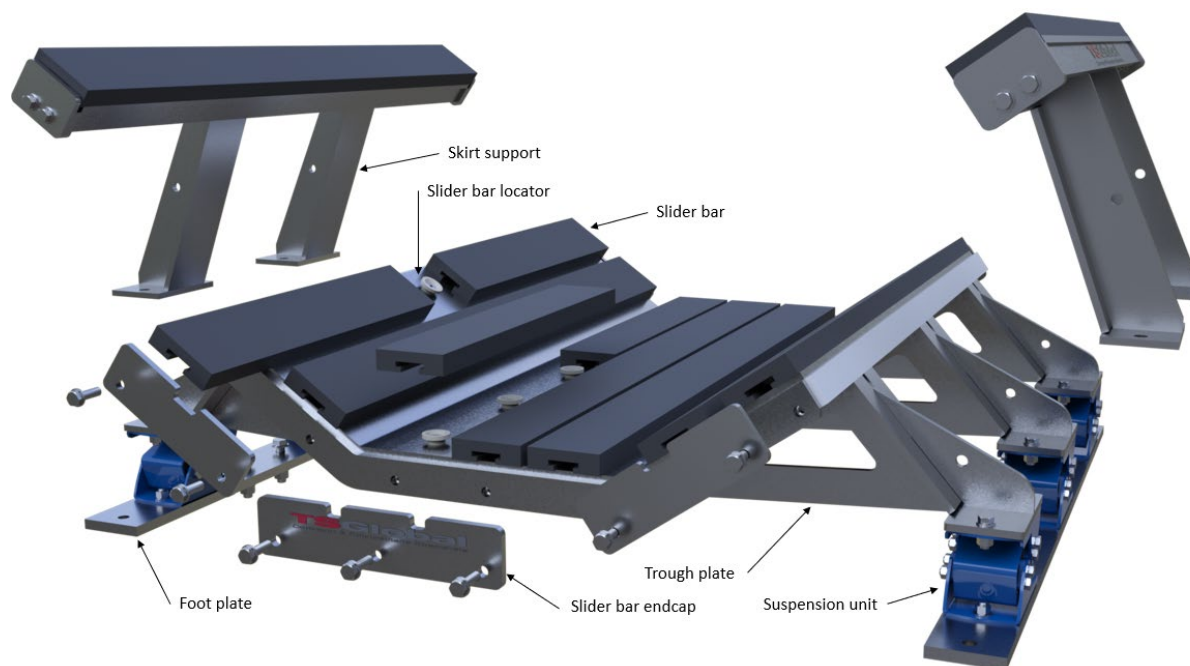

Figure 1: Major components
- Familiarise yourself with the main components of this product (Fig. 1).